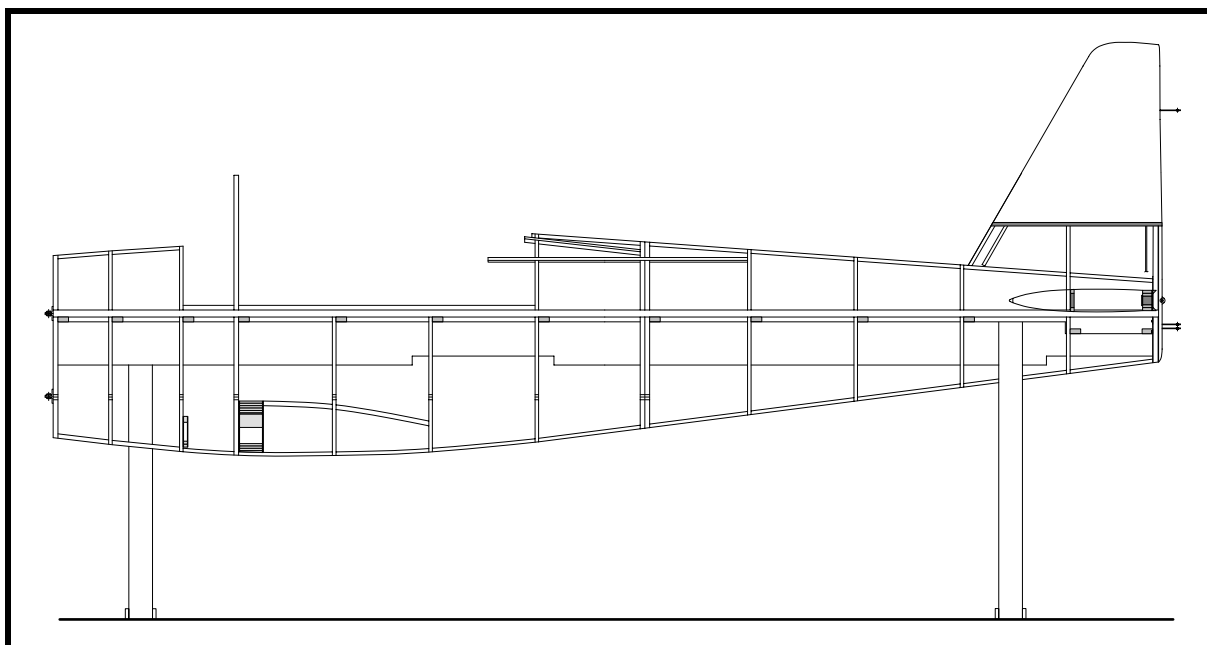

Figure 23
- ☐ Fit the left cockpit coaming strip between frame No. 3 and 4 in place. See Figure 23. At frame No. 3, the coaming should be the same width as the bottom lamination of frame No. 3.